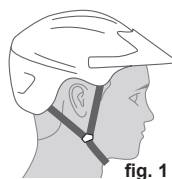

fig. 1
1. Always wear a cycling helmet (**fig. 1**) that meets the latest certification standards and is appropriate for the type of riding you do. Always follow the helmet manufacturer's instructions for fit, use and care of your helmet. Most serious bicycle injuries involve head injuries that might have been avoided if the rider had worn an appropriate helmet.